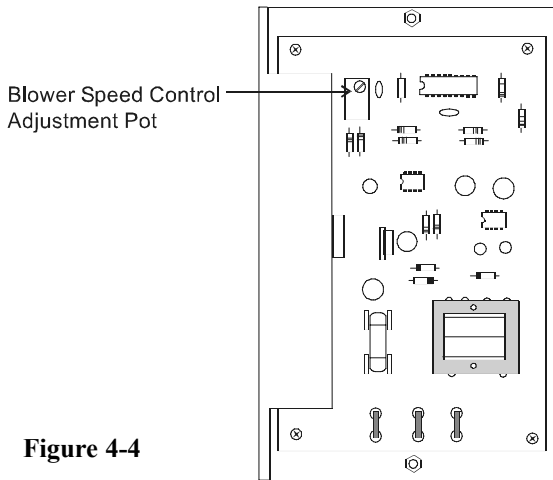

Figure 4-4
Blower Speed Control - The blower speed control is accessed from the rear of the control panel by removing the screw on the bottom of the control panel and swinging the control panel door open. The blower speed is adjusted by turning the screw on the variable resistor mounted on the circuit board adjacent to the controller. (Refer to Figure 4-4) Turning the screw clockwise increases air velocity; counterclockwise decreases it.
4. Open the hinged control panel by removing the screw on the bottom of the control panel and swinging the panel door open. Locate the blower motor circuit board. (Figure 4-4 & 4-5) Using a true RMS voltmeter, measure and record the voltage drop across the white and black wires leading to the terminal strip. (Figure 4-4) The blower speed control adjustment pot is located on the upper left side of the board. Clockwise adjustment of this pot increases voltage supply to the blower motor, counterclockwise adjustment lowers the voltage supply. Adjust it 2-3 volts, up or down, depending upon the airflow required. Retake the airflow measurements.